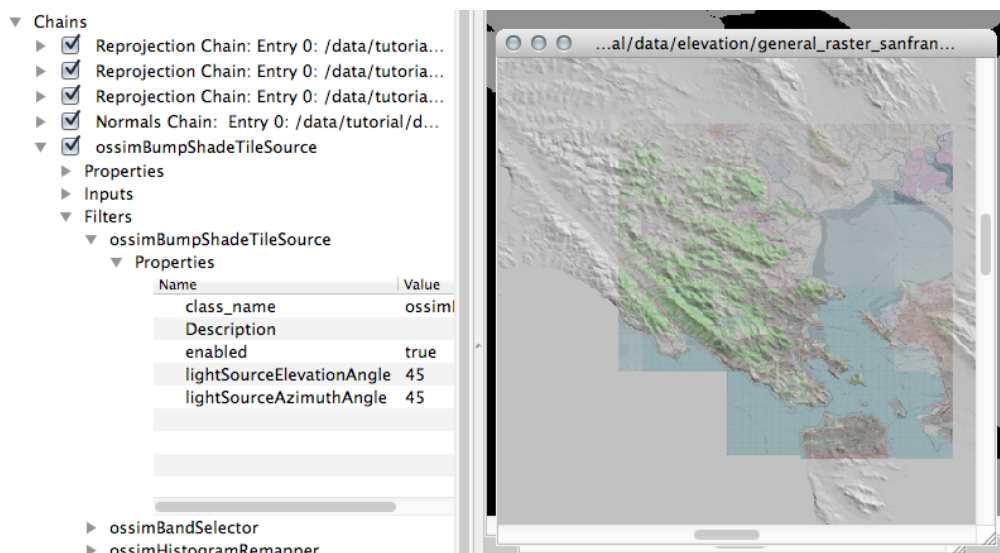

Figure 8. Hill Shaded Map
- b. Expansion of the entry allows manipulation of its filter properties; for example, the hill shade light source azimuth and elevation angles are shown in **Figure 8**